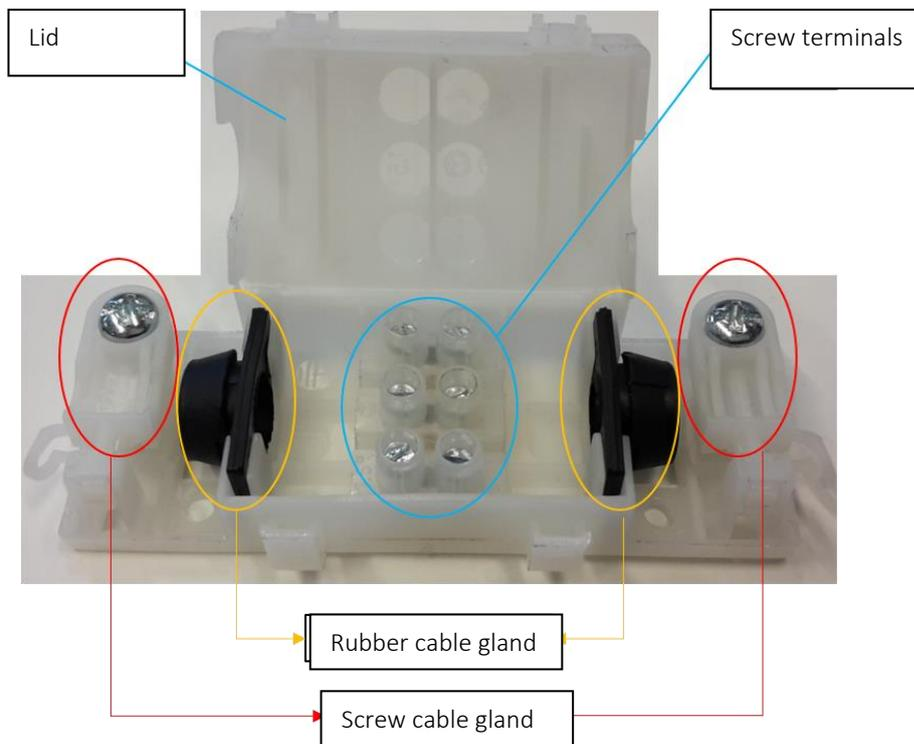

Fig. 36 Branching terminal board to connect the mains supply cables
- E. Take out the rubber cable glands from the branching terminal board (Figure 36): insert the supply cables from the projector into one cable gland and the external supply cables into the other.